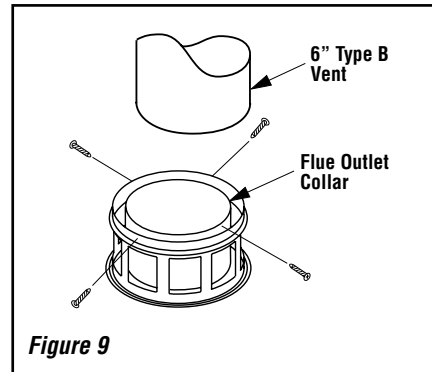

Figure 9
A - Connect a 6" (152 mm) Type B vent system to the appliance flue collar with four (4) No. 8 sheet metal screws (**Figure 9**) and install the remainder of the Type B vent to the outside.